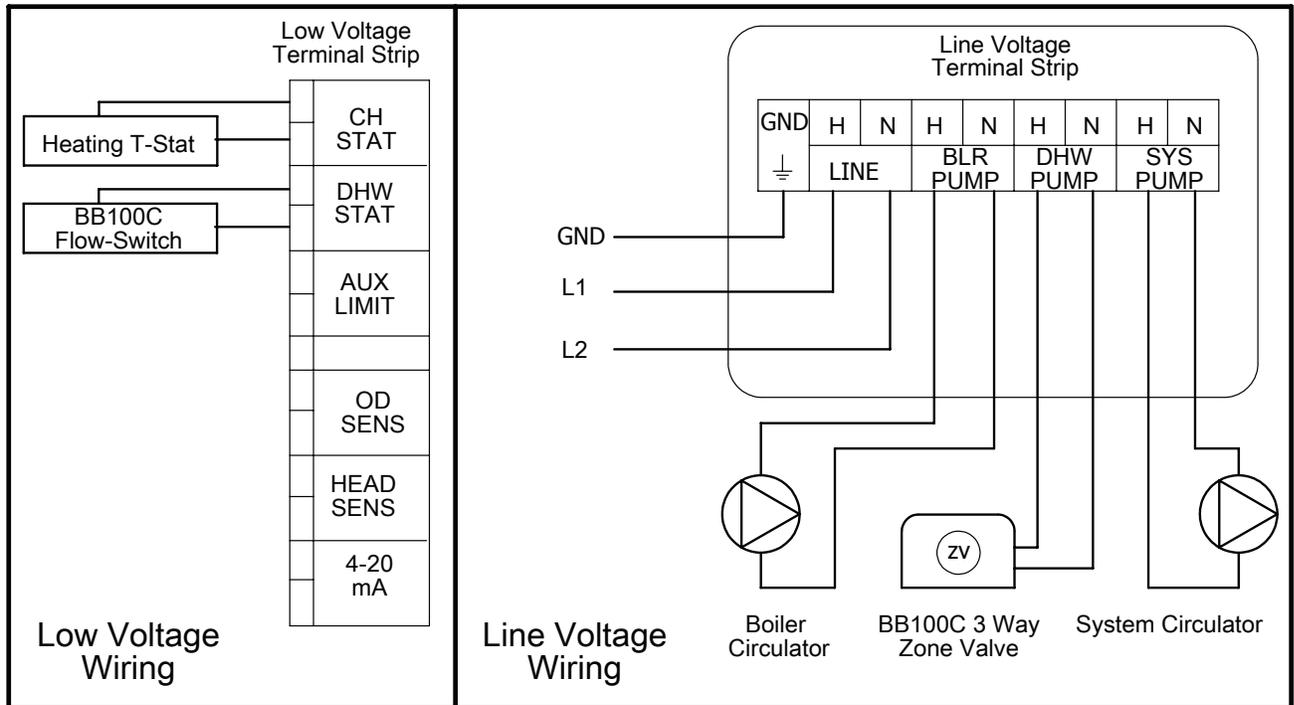

FIGURE 7.5: Wiring BB100C to Boiler equipped with Sola
- 6) Connecting BB100C to Sola Equipped boilers (Figure 7.5):